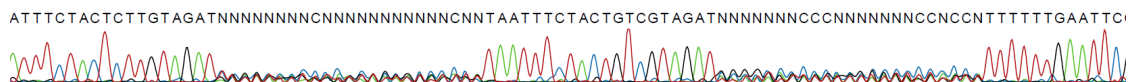

Figure 1: Sanger sequencing results for a typical combinatorial CRISPR/Cas12a library
- Send plasmid library for Sanger sequencing with hU6-f primer (GAGGGCCTATTTCCCATGATT) to Microsynth or another sequencing provider. Expect a sequence with double peaks at both gRNA sites that flank the DR sequence (Figure 1).